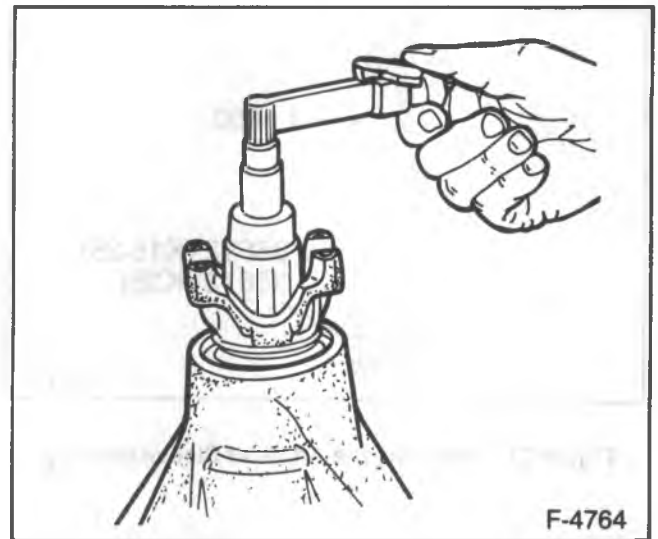

Figure 25—Measuring Pinion Preload
📏 Measure (Figure 25)
- Pinion bearing preload. Use an inch pound torque wrench (figure 25). The correct preload is 1.7-2.8 N·m (15-25 in. lbs.).